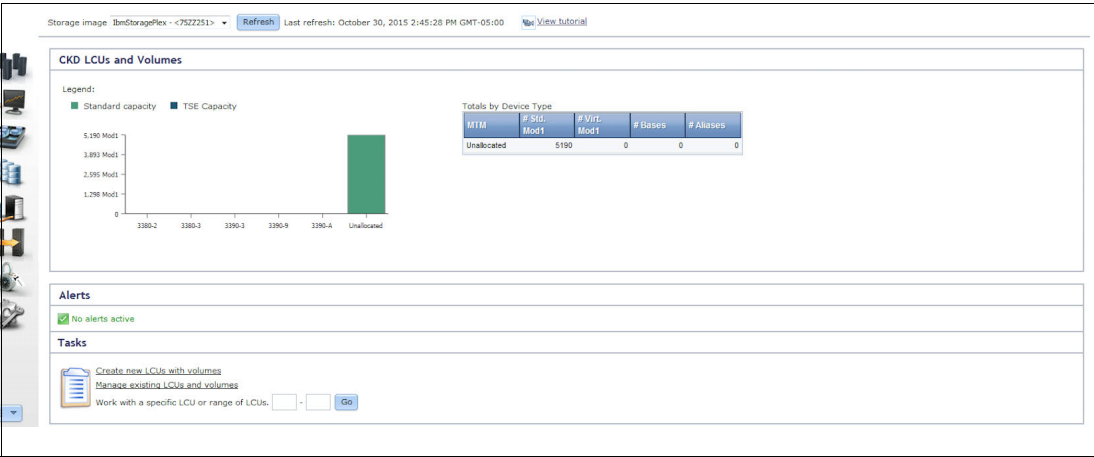

Figure 6-17 CKD LCUs and Volumes Panel
2. We select **CKD LCUs and Volumes** and main panel displays, as shown in Figure 6-17.